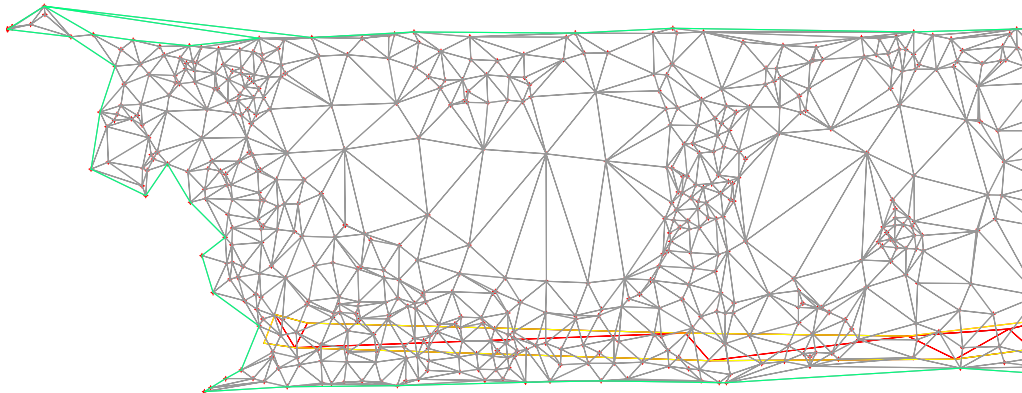

Figure 3-68 The EG surface after deleting the TIN lines
6. Press ENTER; the selected lines are deleted and the surface is displayed, as shown in Figure 3-68. Press ENTER to exit the command.